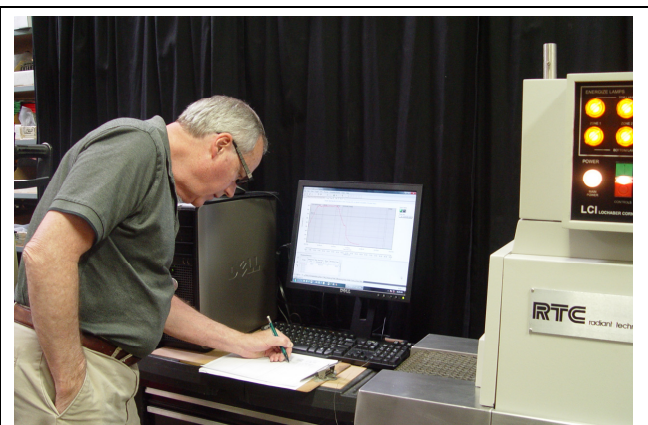

Figure 9-10 Recording Setpoints
- F. Record temperature setpoints and process gas flowmeter setpoints in a log (Figure 9-10)